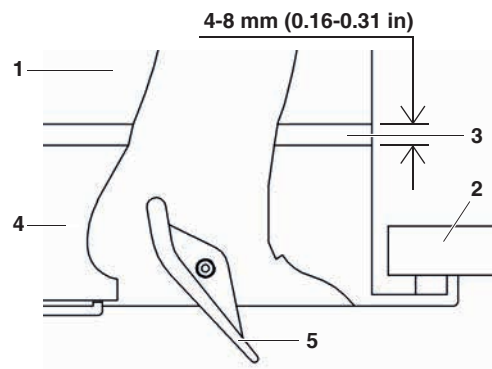

Fig. 4
5. Tighten all 4 screws until the thickness between of the sealing material between the decoration panel and the indoor unit reduces to 4-8 mm. (See Fig. 4)